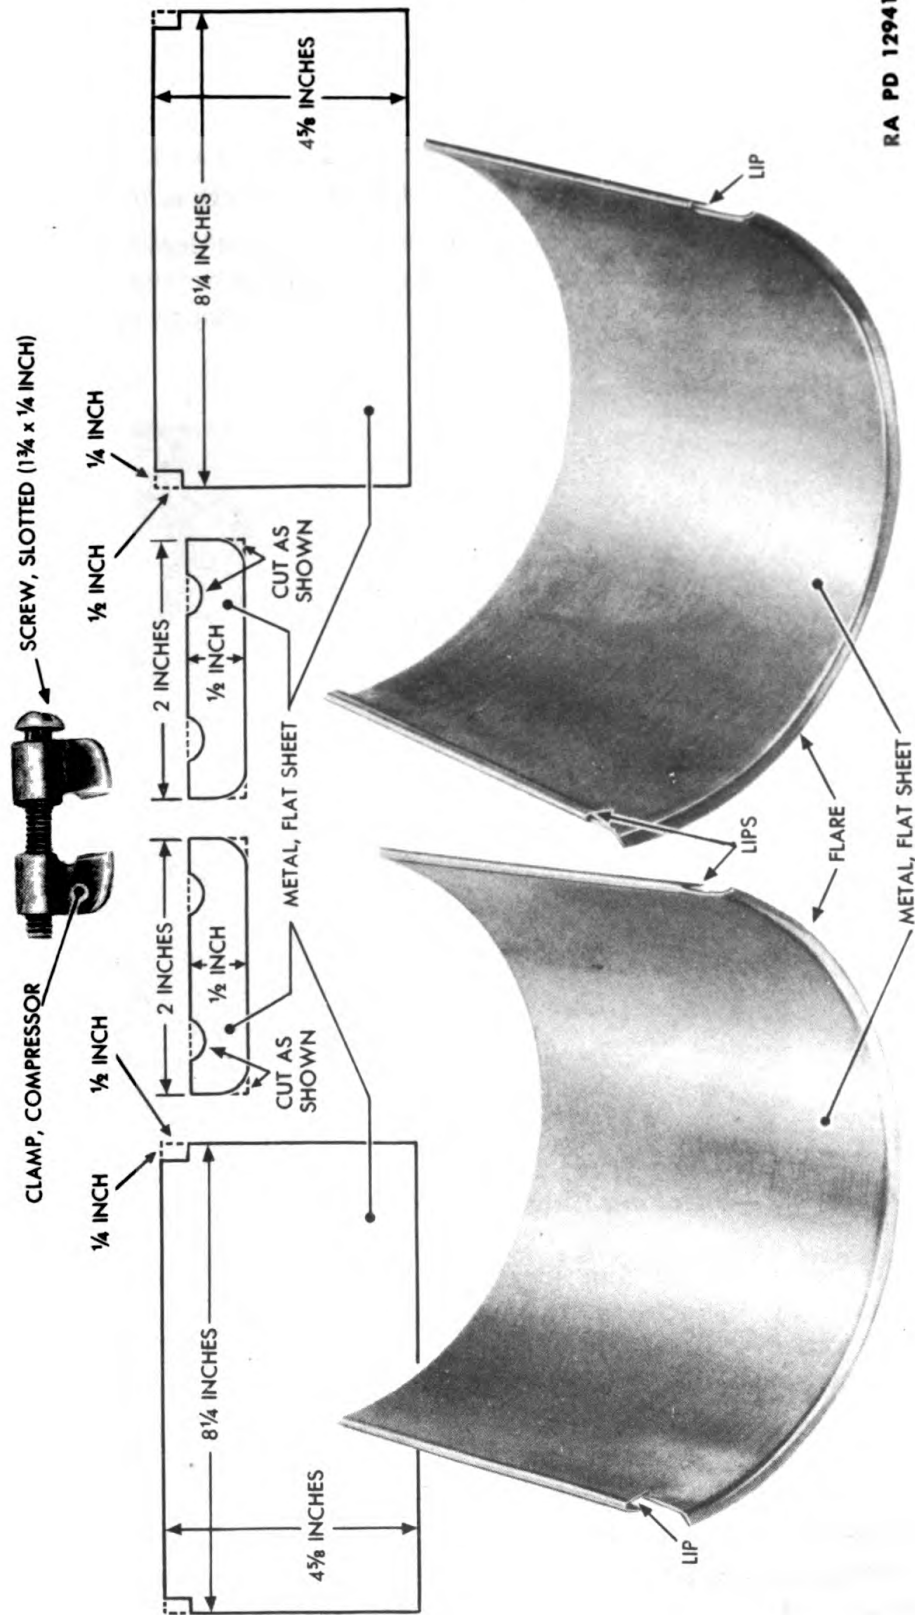

Figure 166—Components of Piston Ring Compressor
(2) MAKE PISTON RING COMPRESSOR (fig. 166).
(f) Make compressor clamp. Cut two pieces of heavier sheet metal, 2-inch by 1/2-inch, and then cut curved corners on one side of each piece. Bend each piece around a 1/4-inch rod into shape shown in figure 166. Thread each piece for 1/4-inch screw. File flat side of each piece to form sharp flat edge at bottom. Join two pieces with 1 3/4-inch by 1/4-inch slotted screw. The screw and these two pieces thus form clamp which can be used to draw two halves of compressor together, for use as described in step (3) below.